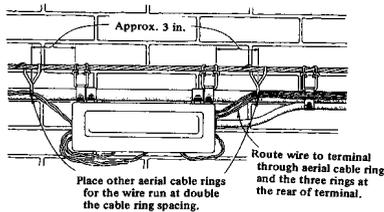

FIGURE 5—Running Wires to Terminal Installed on Strand Supporting Block Cable Attached to a Building
2.04 Where the terminal is installed on a cable which is supported by strand attached to a building, place a cable ring for the drop or block wires approximately 3" beyond each end of the terminal, with the rings not encircling but resting against the outside of the main cable. The wires entering the terminal should pass through one of these rings before being run through the three terminal rings, as illustrated in Figure 5. Where there is less than 2" separation between the strand and the building wall, disregard the wiring rings at the rear of the terminal and place three 7/8" drive rings in corresponding positions in the building wall, approximately 3" below the terminal.